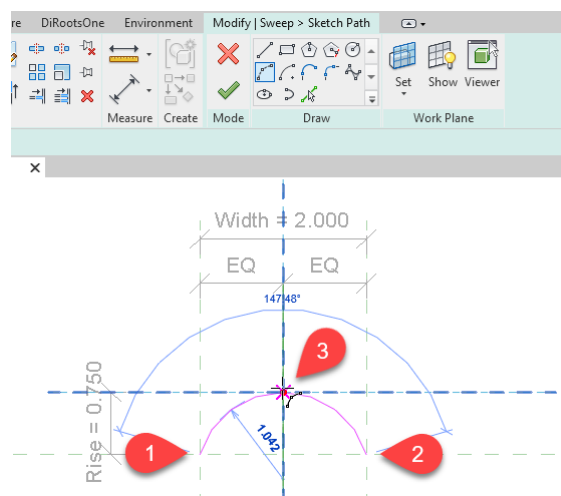

Figure 18—Create the path of the sweep with a start-end-radius arc
10. Snap the start and end points to the intersections where the left and right reference planes cross the Spring Line reference plane (see points 1 and 2 in Figure 18).
- ⇒ Snap to the intersection of the Top and Center (Left/Right) reference planes for the radius (see point 3 in Figure 18).